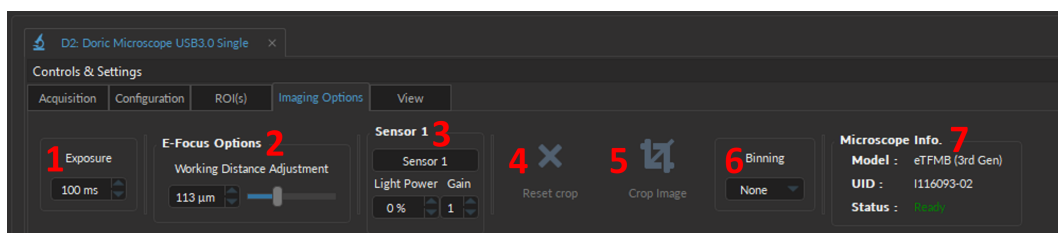

Figure 8.15: Imaging Options Tab
1. The **Exposure (ms)** textbox (Fig. 8.15, 1) specifies the length of time that the microscope sensor collects light from the sample. There are trade-offs between exposure time, image brightness, and phototoxicity.
2. The **E-Focus Options** (Fig. 8.15, 2) allows users to adjust the **Working Distance** of the microscope focus using a slide bar from -45 to 45 μm for *snap-in efocus fluorescence microscope* and from 0 to 350 μm for *Twist-on efocus fluorescence microscope*.
3. The **Sensor #** (Fig. 8.15, 3) sets parameters that is specific for the specified sensor. When a microscope used has multiple sensors, multiple SENSOR sections will be displayed, one for each sensor.
4. The **Reset Crop** button (Fig. 8.15, 4) will remove any crop applied to the image and reset the image size to its maximal value. The change will only appear when a new **Record** sequence is activated.
5. The **Crop Image** button (Fig. 8.15, 5) will chop unwanted section of the **Microscope View** by drawing a square on the video feed. When a new **Capture** sequence is activated, only the cropped region will be captured. Note that the image size will automatically be adjusted to the new resolution.
6. The **Binning** drop-down (Fig. 8.15, 6) averages the pixels values based on the binning value selected: either none, 2x2, or 4x4 pixel squares will be averaged together. This reduces the number of pixels for smaller save file sizes. Note that **Size** of the frame will be automatically adjusted based on the binning:
7. The **Microscope Info.** (Fig. 8.15, 7) includes the following details: